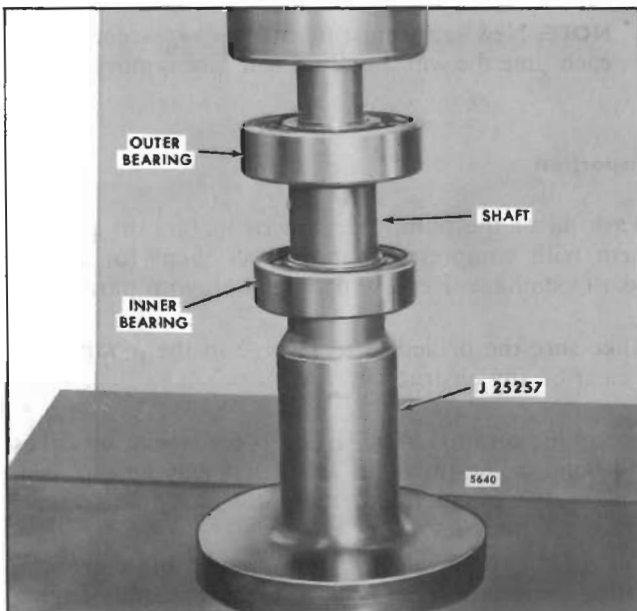

Fig. 6 - Pressing Bearing on Pump Shaft
1. Lubricate the bearing bores and shaft bearing surfaces. Use bearing and gear installer J 25257 and install the bearings on the shaft (Fig. 6).